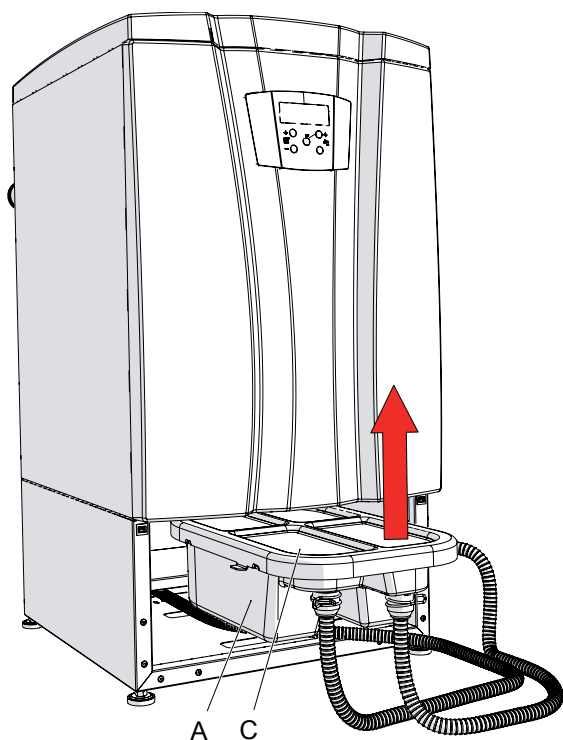

Figure 16-11 Condensate trap and neutralizing box removing
- 3.- Open cover "C" (Figure 16-11) in the upper direction;